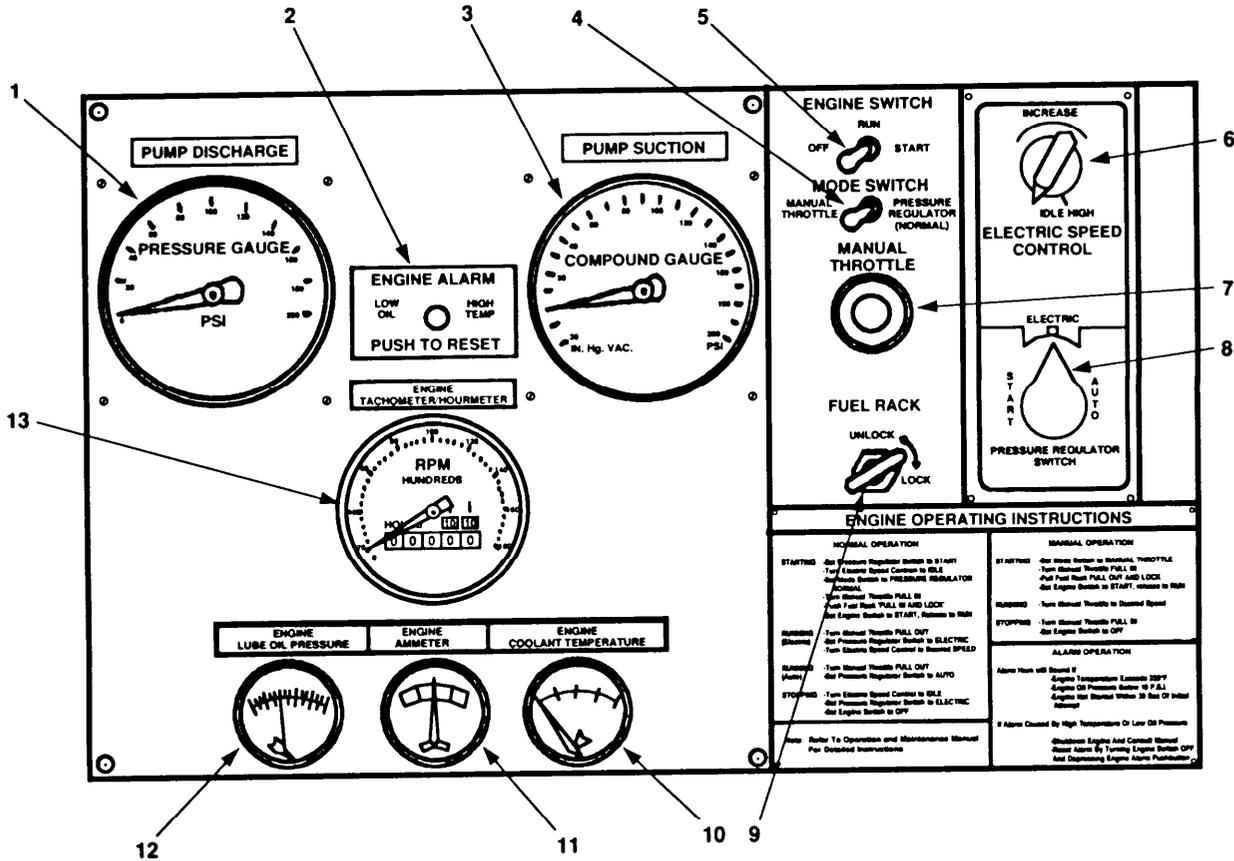

Figure 2-1. Model 609-A Control Panel.
2.1.1.1 Control Panel. Refer to Figure 2-1 and Table 2-1.